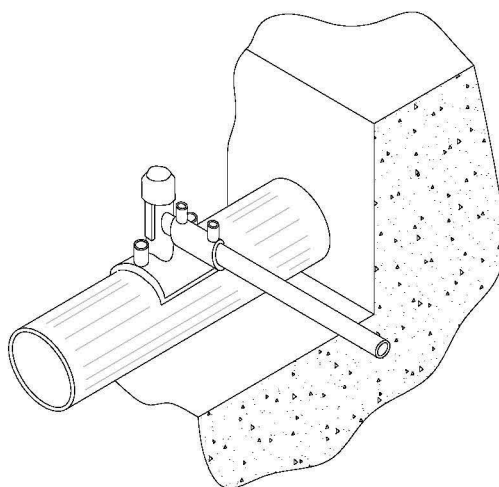

Figure A10 - completed joint
7. Disconnect the terminal leads from the fittings, allow the joint to cool for the time stated on the fitting prior to removing the top-loading tool, to complete the operation (Figure A10).